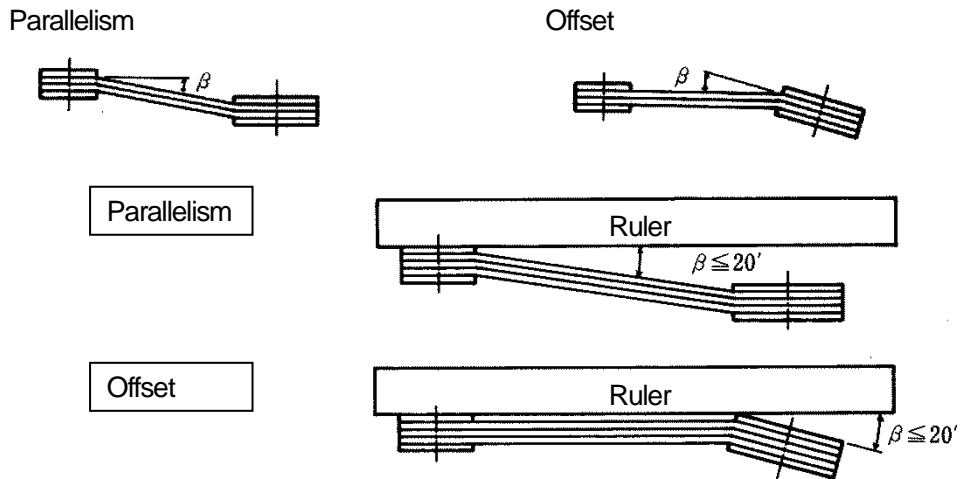

Fig.2 Parallelism and Offset
- (1) Remove belt cover ⑱.
- (2) Lower motor ② as loosening nuts of motor adjuster ⑧, remove the old belt ④.
- (3) Install the new belt ④. If multiple belts are used, it is recommended to use “matched set” of which the circumference length is the same.
- (4) Adjust the parallelism and offset with motor adjuster ⑧ as putting a ruler on motor pulley ③ and fan pulley ⑤, at the same time, adjust deflection as you give tension at the center of the span to the belt. (Fig.2 and 3)